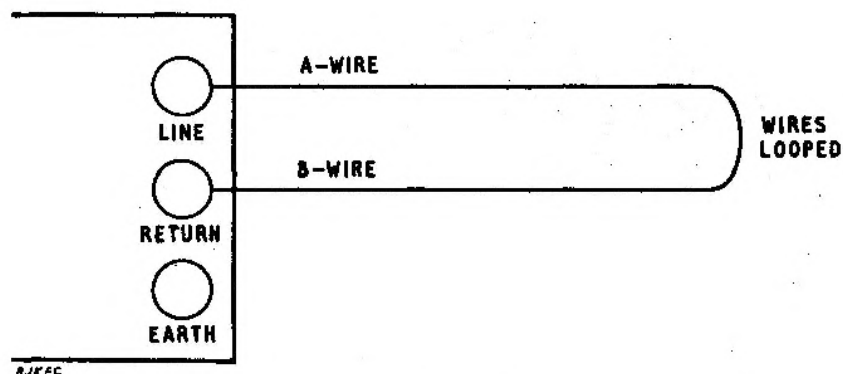

FIG 3 - LOOP RESISTANCE OF A AND B WIRES
5.1 Loop Resistance (see Fig 3) Connect the looped A and B wires to the LINE and RETURN terminals. Set the TEST FUNCTION switch to the LOOP position, the RHEOSTAT VALUE switch to the LOOP ÷10 ratio position. Switch on, and adjust the rheostat until the pointer is on the RHEOSTAT BALANCE scale zero mark. The rheostat setting divided by 10 is equal to the conductor loop resistance to the nearest 0.1 ohm. Change to ratio X1 if necessary, to obtain a setting on all four dials of the rheostat when the loop resistance exceeds 999.9Ω.